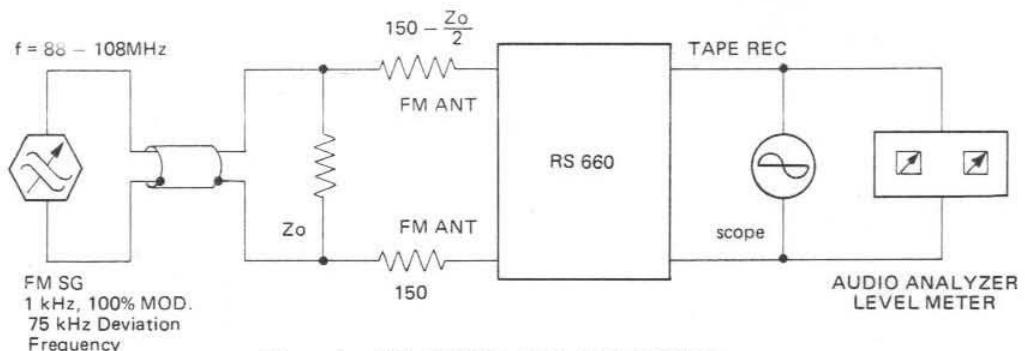

Figure 4. FM FRONT END TEST-SETUP
2. Connect the test equipment to the RS 660 as shown in Figure 4.
1. Connect the test equipment to the RS 660 as shown in Figure 4, FM Front End Test-Setup.
Connect the test equipment to the receiver as shown in Figure 4.